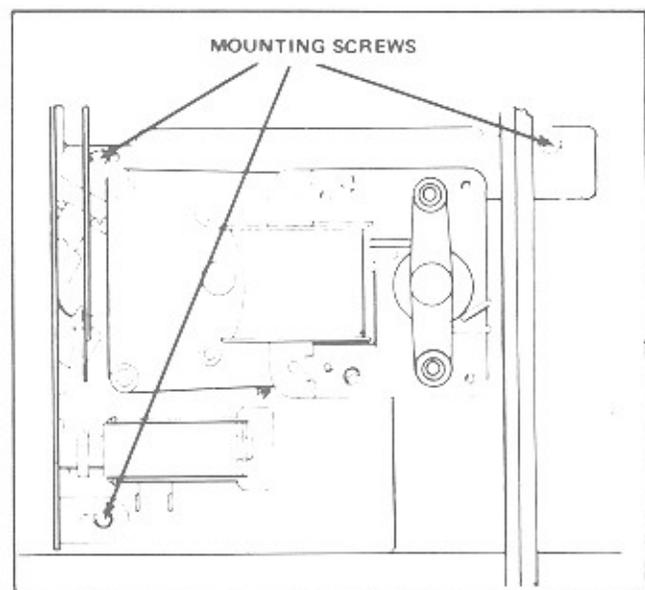

Figure 3-9. Sprag Assembly Removal
1. To remove sprag assembly, disconnect wires to the solenoid and motor, remove the three mounting screws and slide the assembly out of the right side of the mechanism (see figure 3-9).